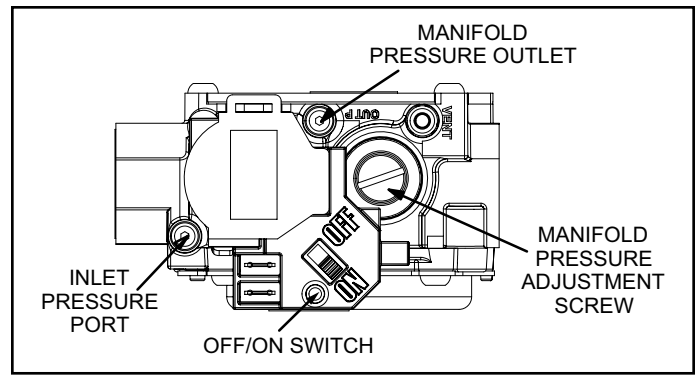

Figure 6. Gas Valve
3. Slide the gas valve switch to the "ON" position (see Figure 6).
2. Slide the gas valve switch to the "OFF" position (see Figure 6).
manifold pressure vary more than 0.3" w.c. from the above specified pressures. To adjust the regulator, turn the adjusting screw on the regulator clockwise to increase pressure and input or counterclockwise to decrease pressure and input. See Figure 6 to assist in locating the regulator on the gas valve.
1. Slide the gas valve switch to the "OFF" position (see Figure 6).